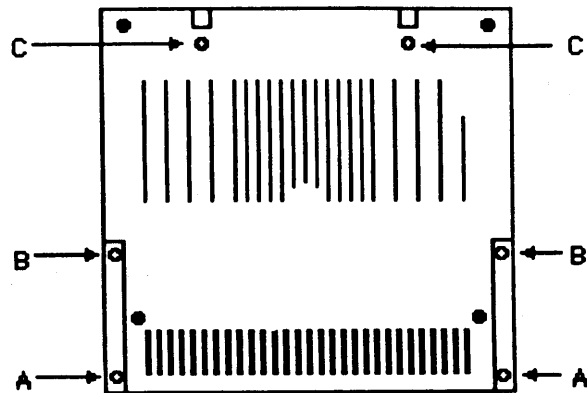

Figure 5: Apple IIc Case Bottom (Showing screws).
2. Turn the computer upside down and unscrew the two screws (marked 'A' in *Figure 5*) at the keyboard end corners.